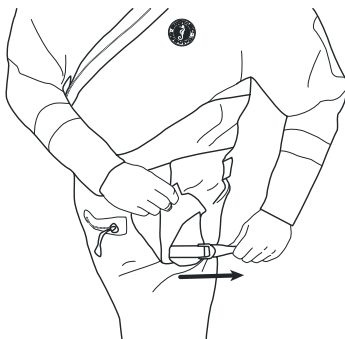

FIGURE 3B
3. Cinch integrated thigh straps to a comfortable and snug position [Fig 3B]. This will improve the fit and mobility of the suit, and reduce excess material in the thigh areas which would otherwise increase drag and lead to rescuer fatigue. The thigh straps are located under each of the Kevlar hip patches.